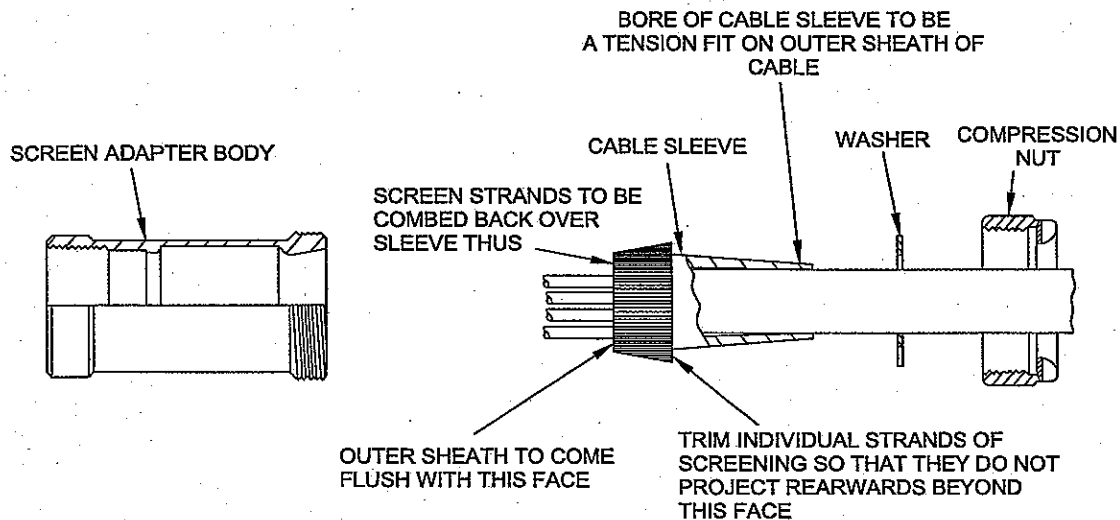

Fig 6 Screened cable adapter, fitting instructions
9.2 Cut screen and outer sheath as shown in Fig 6.